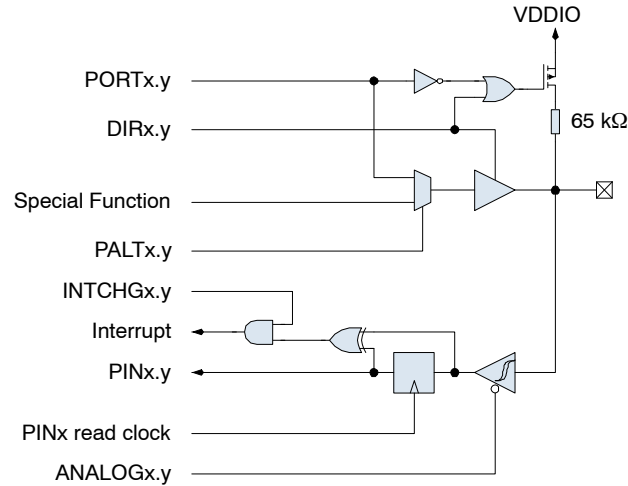

Figure 10. Port Pin Schematic
Figure 10 shows the GPIO logic. The DIR register bit determines whether the port pin acts as an output (1) or an input (0).